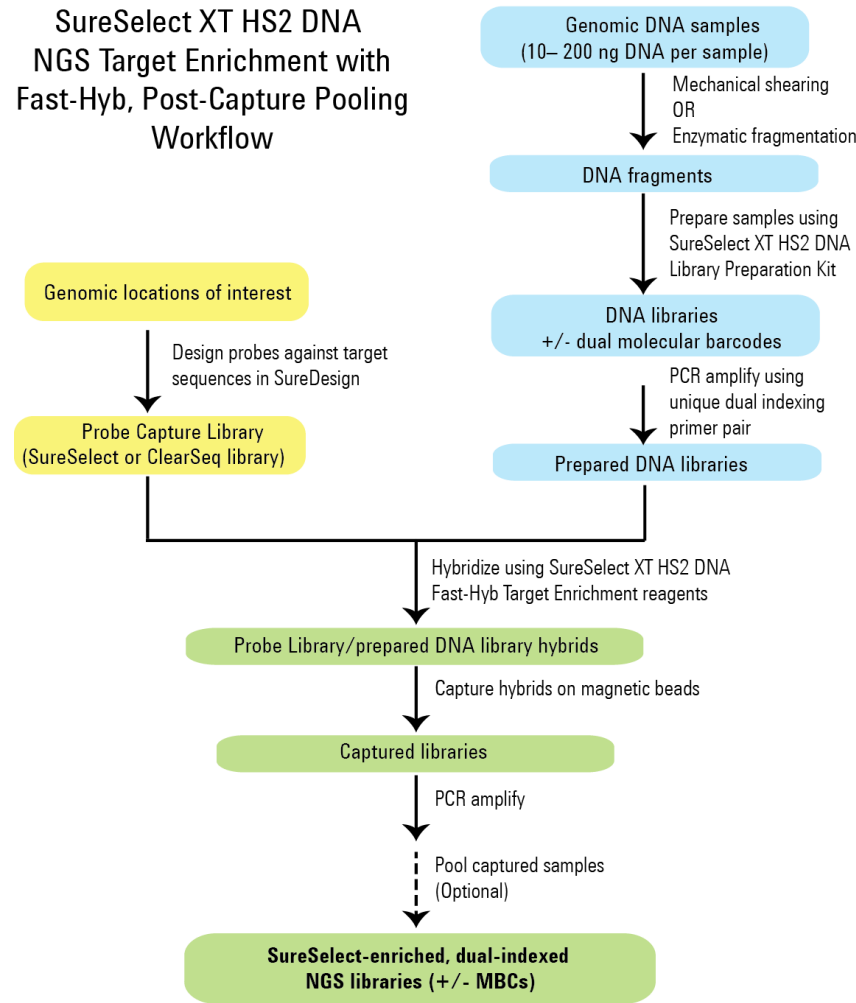

Figure 1 Overall target-enriched sequencing sample preparation workflow.
- Updates to Figure 1 and Table 1 on page 8
The SureSelect XT HS2 DNA workflow is summarized in Figure 1. The estimated time requirements for each step are summarized in Table 1.